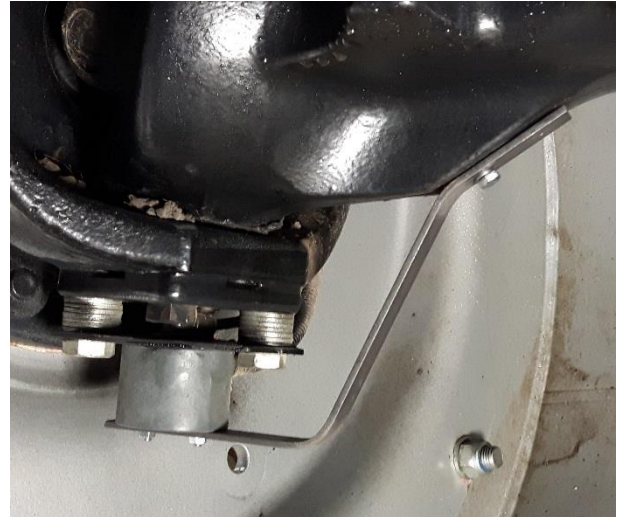

FIGURE 22 STRIP ON THE FRONT AXLE WITH ONE BOLT
6. Tap the first thread in the hole drilled into the front axle using a M6 screw-thread tapping attachment. Now fasten the strip with one M6 bolt (Figure 22).